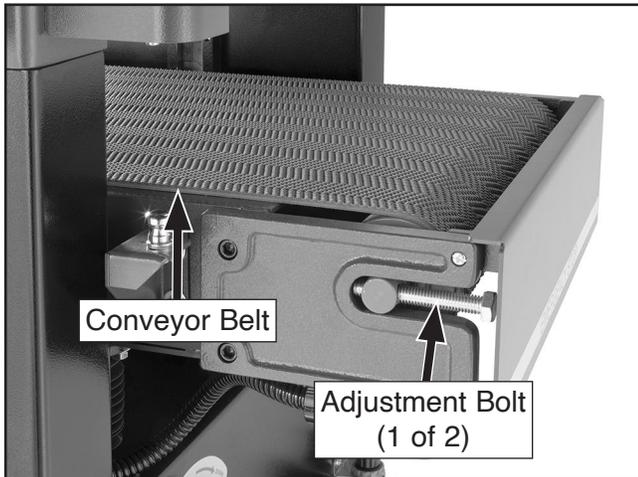

Figure 104. Location of conveyor belt adjustment bolts.
- If conveyor belt is tracking *right*, rotate right adjustment bolt (see **Figure 104**) clockwise.
- If conveyor belt is tracking *left*, rotate left adjustment bolt (see **Figure 104**) clockwise.